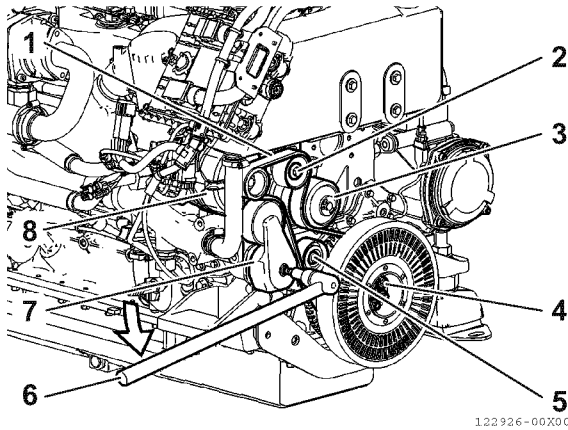

Figure 20
2. Remove the belt (Figure 20, (1)) acting on the automatic belt tensioner (Figure 20, (7)) using the designated tool (Figure 20, (6)) from the alternator (Figure 20, (8)), water pump (Figure 20, (3)), pulleys (Figure 20, (2)) and (Figure 20, (5)), crankshaft pulley (Figure 20, (4)).
5. Use the designated tool (Figure 20, (6)) on the automatic belt tensioner (Figure 20, (7)) to fit the new belt in operating position.
6. Further adjustments are not required. The belt tension is adjusted automatically by the calibrated spring in the automatic belt tensioner (Figure 20, (7)).